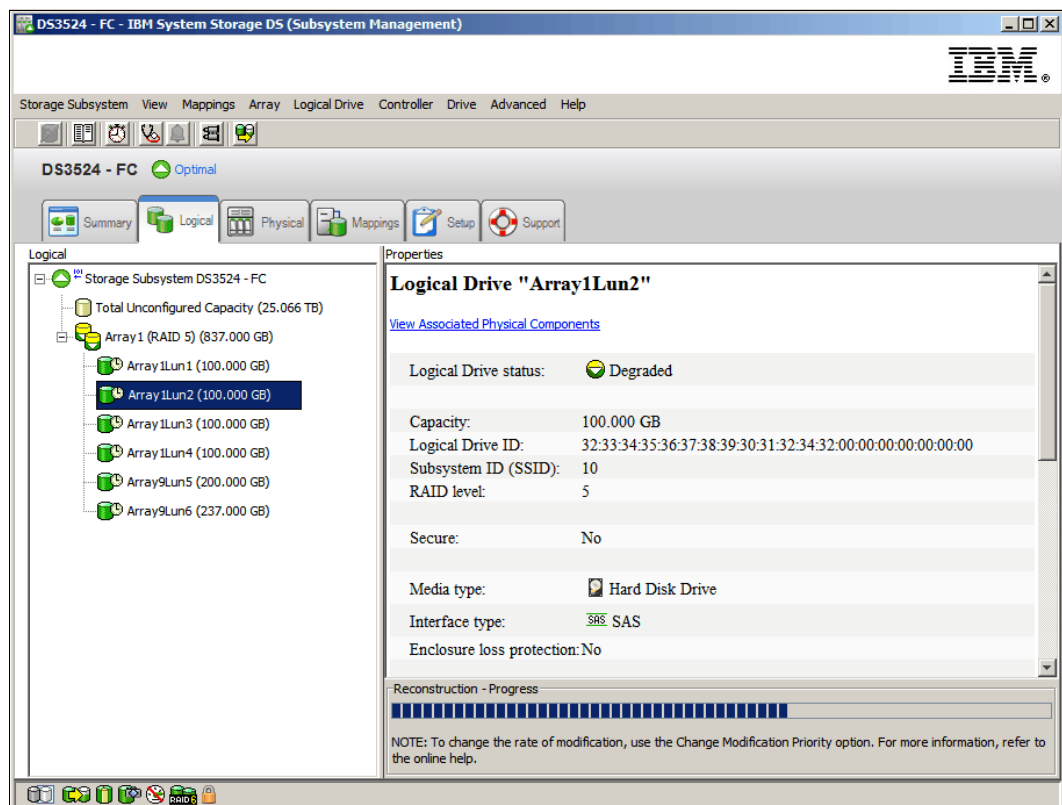

Figure 14-147 Reconstruction - Progress
- The drive will have a status of Replaced while the reconstruction is occurring. The array and logical drive(s) will have a status of Degraded until the reconstruction has completed. You can view the progress of a logical drive reconstruction by selecting the logical drive in the Logical tab of the DS Storage Manager (Subsystem Management) window as shown in Figure 14-147.